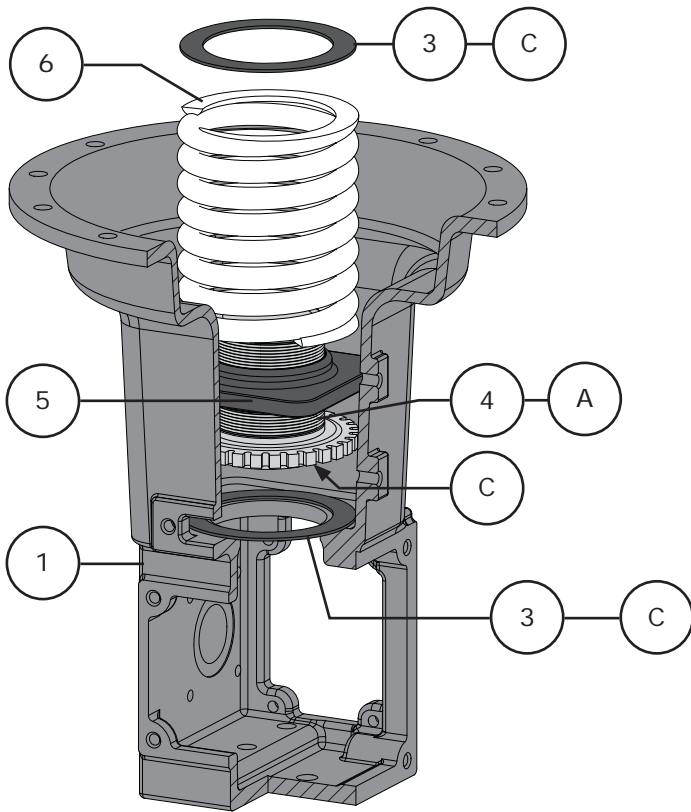

Figure 19 *Spring Barrel Assembly*
- 1 Apply Lubriplate® No. 105 Grease (Key C) to both sides of the lower thrust washer (Key 3) and set it into the actuator housing (Key 3) as shown in Figure 19.